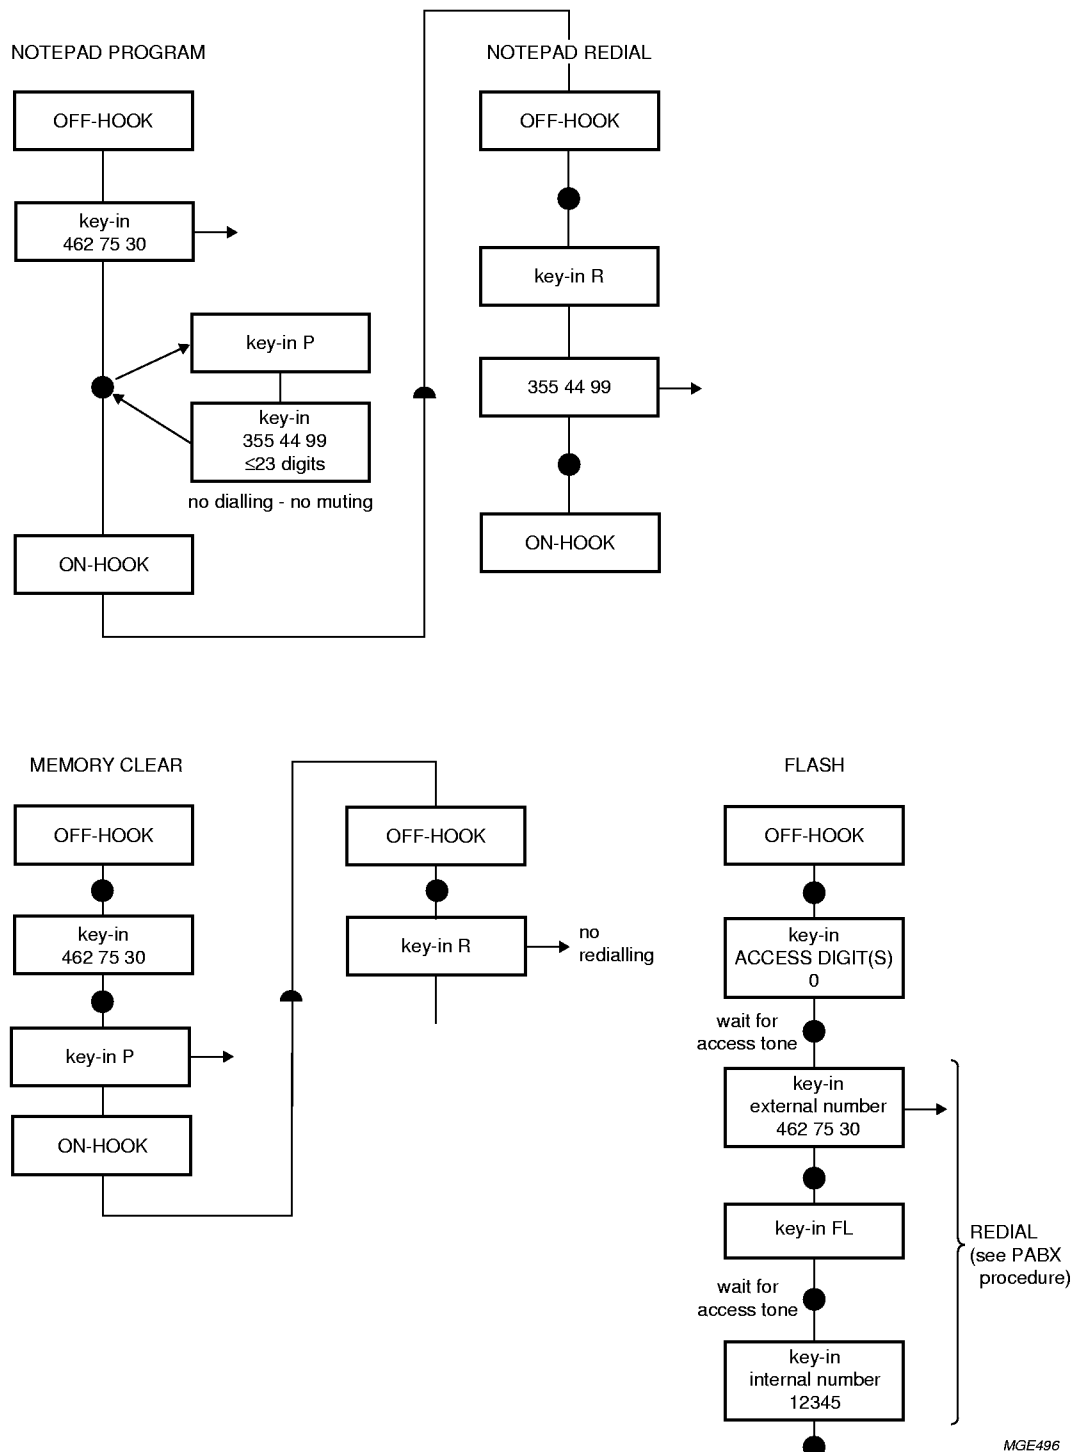

Fig.9 Notepad, memory clear, flash; independent of dialling mode.
The FL key has the same effect as placing the telephone 'on-hook' for a calibrated time. Pressing the FL key will produce a timed line-break of 100 ms (min.) at the DP/FLO output. During the conversation mode pressing FL also acts as a chip enable. The flash pulse duration (t_{FL}) is calibrated and can be prolonged with an external resistor and capacitor connected to the FLD input/output (see Fig.5). The flash pulse resets the Read Address Counter (RAC) to the address of the first entered digit of the last number dialled. Subsequent redial is possible (see Fig.9). The counter of the reset delay time is held for a period of t_{FL} .
The redial register can also be used as a notepad. In the conversation mode a number with up to 23 digits can be entered and stored for redialling. By activating the program key (P) the WAC and TWAC pointers are reset. This acts like a memory clear (redial is inhibited). Afterwards, by entering and storing any digits, redialling will be possible after flash or hook-on and hook-off (see Fig.9).